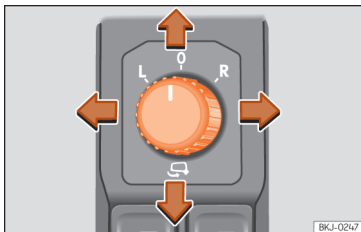

Fig. 148 Exterior mirror controls.
1. Turn knob »» Fig. 148 to position **L** (left exterior mirror).
- Turn the control »» Fig. 148 to position to fold in the exterior mirrors. You should always fold in the exterior mirrors if you are driving through an automatic car wash. This will help prevent damage.